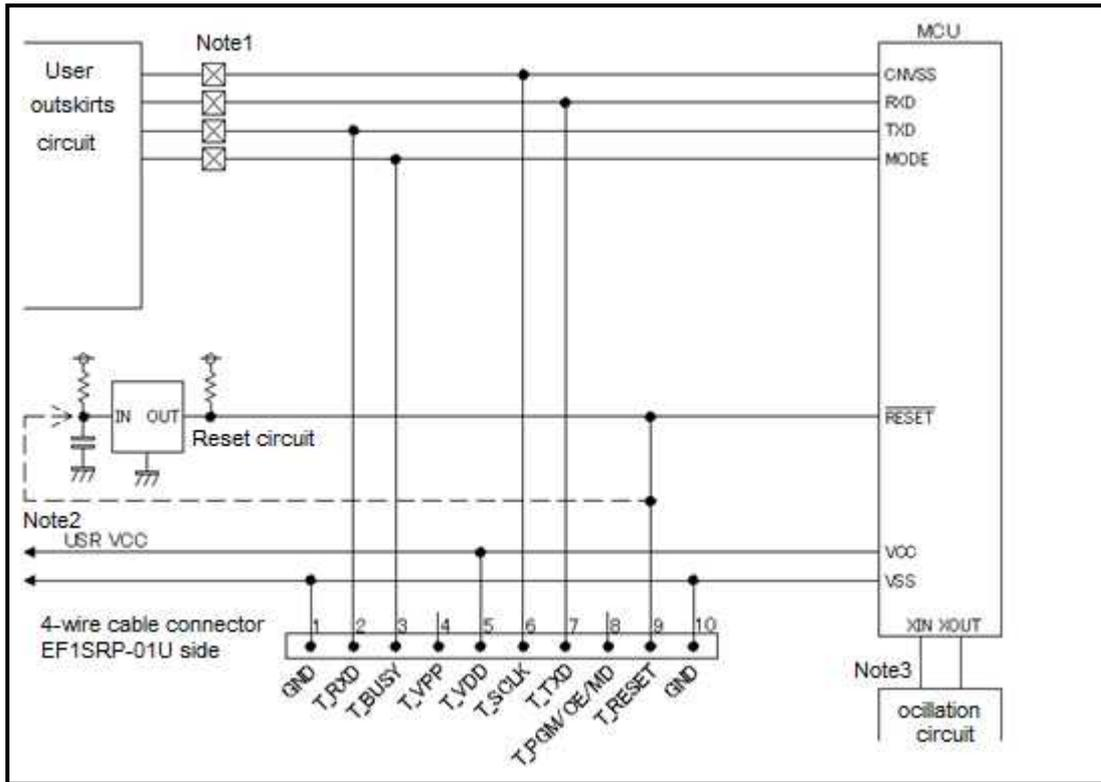

Fig.3.1: Target MCU Peripheral Circuit Example
(1) Fig3.1 shows an example of user target MCU peripheral circuit R8C/Tiny series.